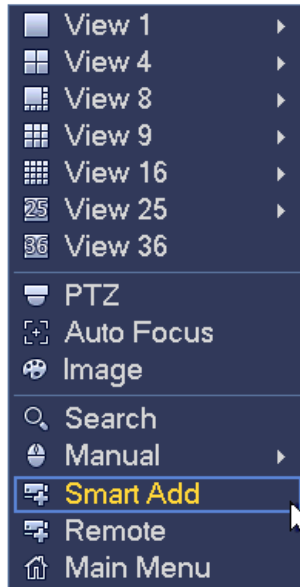

Figure 3-4
- On the preview interface, right click mouse and then select Smart add. See Figure 3-4.